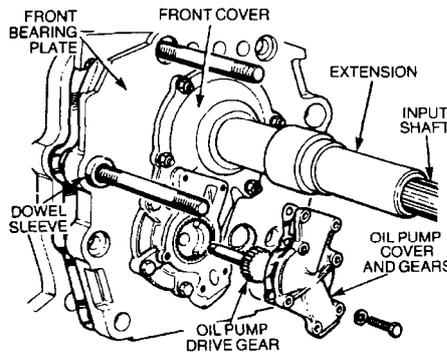

Figure 154 Removing the Oil Pump and Drive Gear
- m. Position the transmission with the front end uppermost, remove the bolts, locknuts and washers retaining the front cover and oil pump cover and gears. Remove the oil pump cover and gears (Figure 154).
- n. Remove the oil pump drive gear (Figure 154).